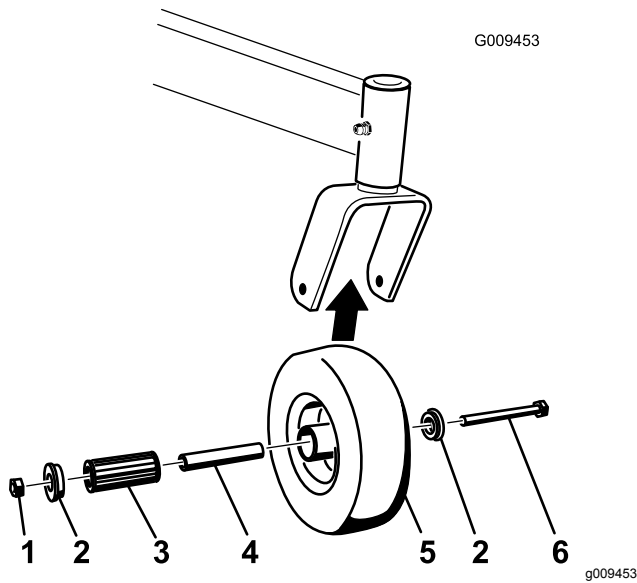

Figure 55
1. Remove the locknut and wheel bolt holding the caster wheel to the caster fork (Figure 55).
2. Remove 1 bushing, then pull the spanner bushing and roller bearing out of the wheel hub (Figure 55).
3. Remove the other bushing from the wheel hub and clean any grease and dirt from the wheel hub (Figure 55).
Note: Replace any damaged or worn parts (Figure 55).
5. Place 1 bushing into the wheel hub (Figure 55).
6. Grease the roller bearing and spanner bushing, and slide them into the wheel hub (Figure 55).
7. Place the second bushing into the wheel hub (Figure 55).
8. Install the caster wheel into the caster fork and secure it with the wheel bolt and locknut (Figure 55).
9. Tighten the locknut until the spanner bushing bottoms against the inside of the caster forks (Figure 55).